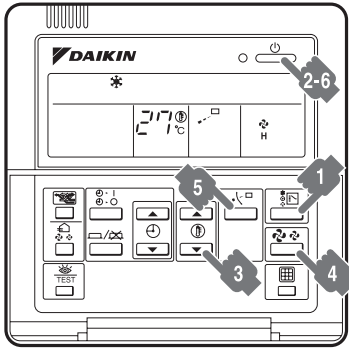

figure 4
**FOR SYSTEMS WITHOUT COOL/HEAT SELECTOR (Refer to figure 4)**
**FOR SYSTEMS WITH COOL/HEAT SELECTOR (Refer to figures 4 and 7)**
**ADJUSTMENT (Refer to figure 4)**
**STOPPING THE SYSTEM (Refer to figure 4)**